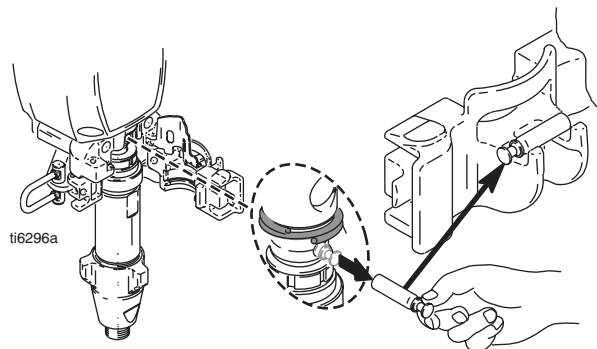

FIG. 23
10. FIG. 23. Pull out pump pin and place in pin holder